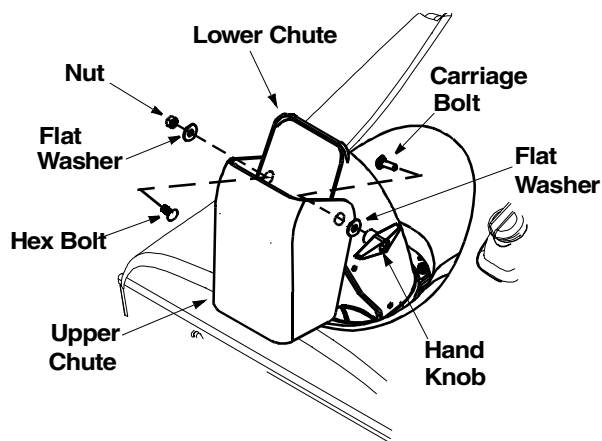

Figure 4
- Turn the chute crank until the chute faces straight to the front. See Figure 4 .
- Remove the hand knob, flat washer and carriage bolt from the upper chute. See Figure 4.